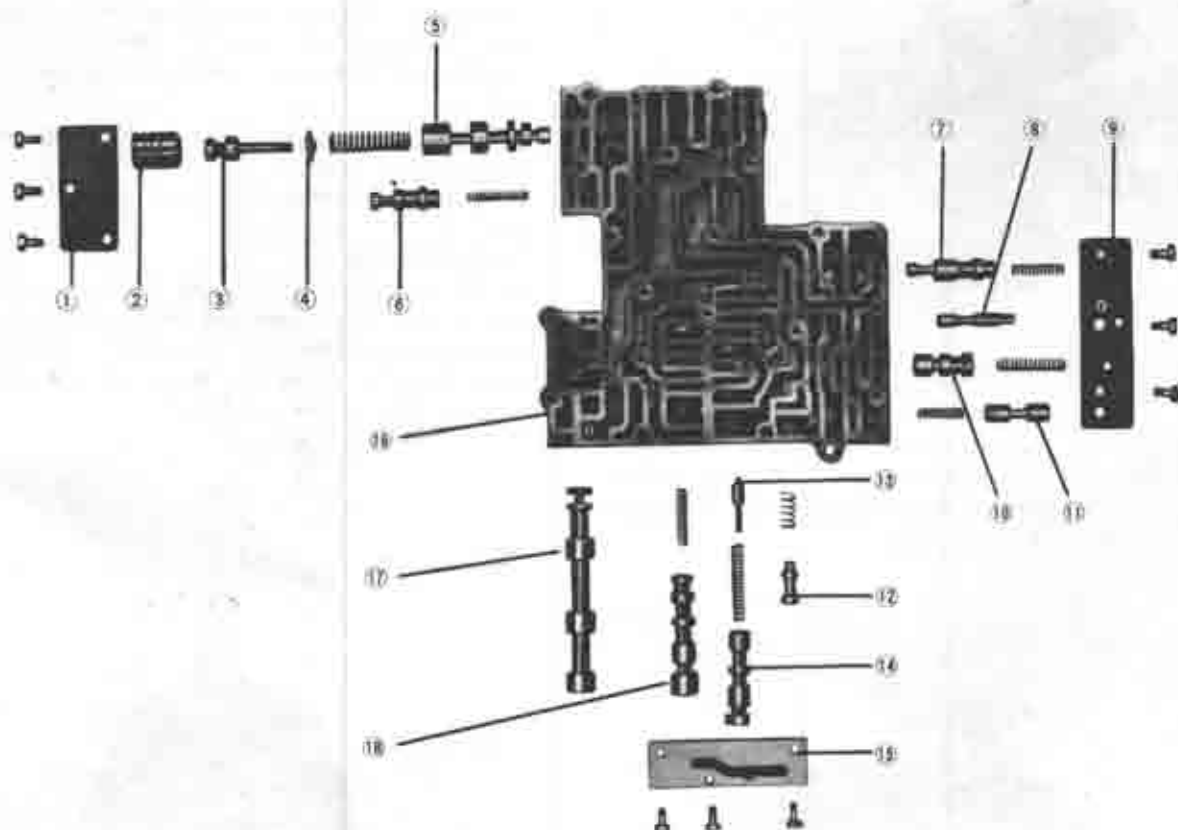

Fig. 2-42 Component parts of control valve
- (1) Install small valves and springs by referring to the components parts of control valve Fig. 2-42.
- (2) Lubricate all valves and springs with converter oil before installing.
- (3) If there is any valve that is difficult to insert, do not force it in but give it a light, straight push.
- (4) Make sure that the followings are strictly tightened to 0.25~0.35 m·kg (1.8~2.5 ft·lb):